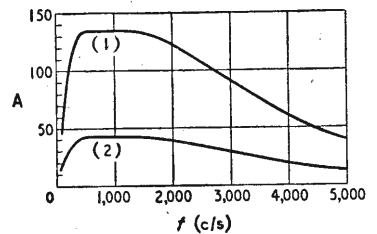

Fig. 2. When amplifier characteristics are plotted with linear amplification and frequency scales, as here, it is difficult to compare their merits.
Fig. 3. The Fig. 2 curves have here been plotted with a logarithmic voltage-amplification scale, which brings out the fact that their frequency characteristics are identical, the only difference being amplification level. An alternative to the logarithmic A scale is the linear decibel scale (b). Aurally the range of frequency from 100 to 400 is as great as from 1000 to 4000, but the linear frequency scale distorts this proportion, and is a hindrance to further generalization.
new scale directly indicates the percentage at other frequencies, relative to this "ideal" level. But in a complete amplifier the "ideal" level might be almost any figure, so it would be less easy to make the comparison. Curve (1) in Fig. 2 is an example. The voltage gain is practically level at 135 over the range of frequencies around 1000 c/s, and at 4000 c/s is down to 60. To find the relative level at 4000 c/s it is necessary to divide 60 by 135. Of course the whole scale could be divided by 135 (or 1.35), making the flat top read 1 (or 100) and a note added to the effect that the actual voltage gain here was 135. But there is not always an obvious comparison level such as this, and, even where there is, one may want to compare the levels at two other points. Curve (1) doctored to make the flat top 100%, for example, would be no better than the original curve for comparing the output at 5000 c/s with that at 3500 c/s.
It would be helpful if any given vertical distance on the graph represented the same voltage ratio, whether it was at a high level, such as curve (1), or a low level such as (2). Then the effect of increasing the overall voltage gain of an amplifier would be to shift its curve bodily upwards without altering its shape. What is wrong with the scale in Fig. 2 is that a rise from 10 to 20, which is 100% increase, looks the same as a rise from 100 to 110, which is only 10% increase.
In Fig. 3(a) the vertical scale has been redistributed so as to make a 100% increase (or any other percentage increase or decrease) occupy the same distance from every starting point. It is as far from 10 to 20, for example, as from 50 to 100, and 75 to 150. Replotted on this scale, curves (1) and (2) are identical in shape and differ only in level; which is a fairer representation of the facts than Fig. 2. The scale, of course, is the well-known logarithmic variety, seen on every slide-rule. The only thing still wrong with it is that it is not uniform and so is difficult to interpolate (i.e., read between the marked divisions). It is quite easy to make it into a uniform scale, because by definition it was a scale in which any given voltage ratio occupied the same distance everywhere along it. So we could measure off the distance between 10 and 11 (or 100 and 110, which would be exactly the same), and make a new scale in which the marks would be evenly spaced by this distance. They could then be numbered 1, 2, 3, etc., "ten-per-cent-increases."